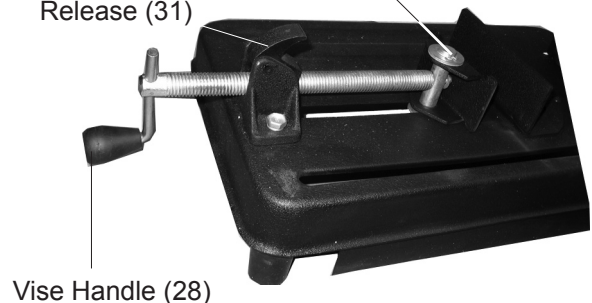

FIGURE 4
- a. To use the Quick Release (31), put the Quick Release (31) tab in the position shown in **FIGURE 4** and push the Vise Handle (28) up against the workpiece. Then tighten the Vise Handle (28). When releasing, loosen the Vise Handle (28) a few turns, lift up the Quick Release (31), and pull the Vise Handle (28) open.
- c. To reposition the Angle Scale (35), remove both of the Bolts (41 & 44), and reattach the Angle Scale at the upper two screw holes. See **FIGURE 4**.